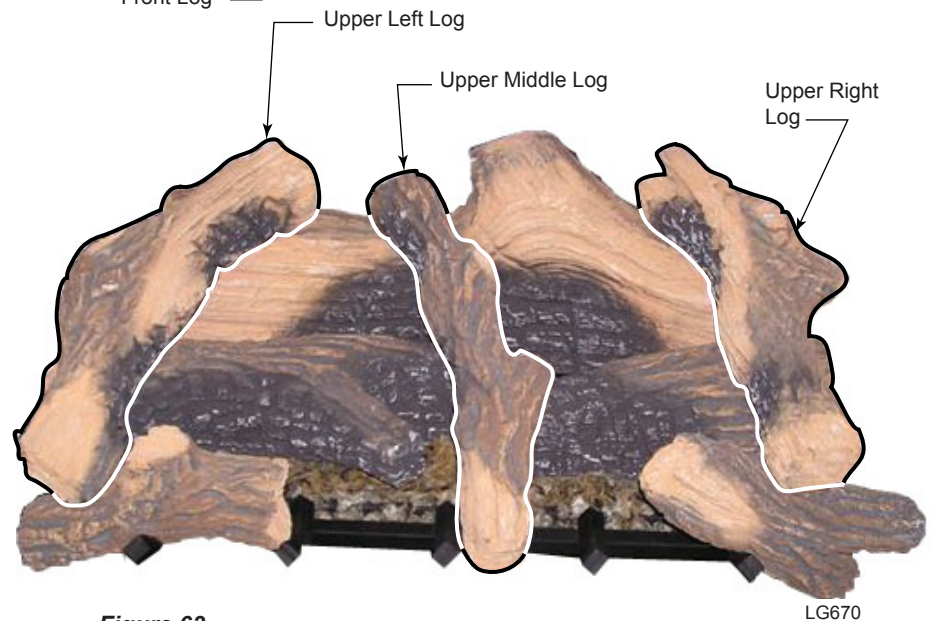

Figure 63 - Place Upper Left, Right and Middle Logs
- Place the upper left log by matching the two protrusions on the rear and left middle logs with the notches on the bottom of the upper left log. *Figure 63*
- Place the upper middle log by matching the protrusions located at the middle of the rear log with the notch on the bottom of the log. Rest the front end of the log on the right side of the middle tong of the grate. *Figure 63*
- Place the upper right log by matching the two protrusions on the rear and right middle logs with the notches on the bottom of the upper right log. *Figure 63*